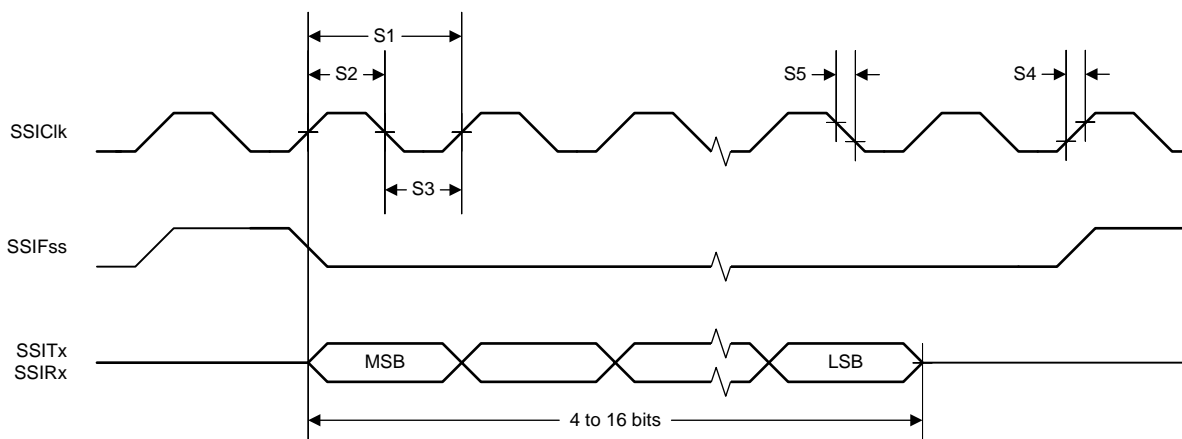
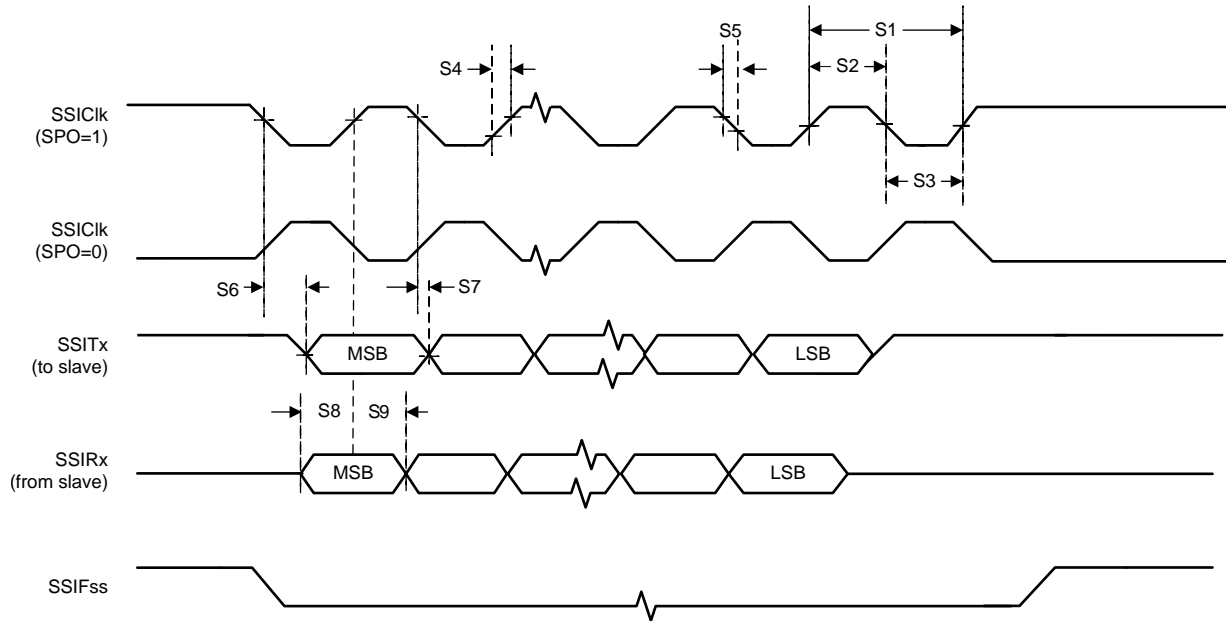
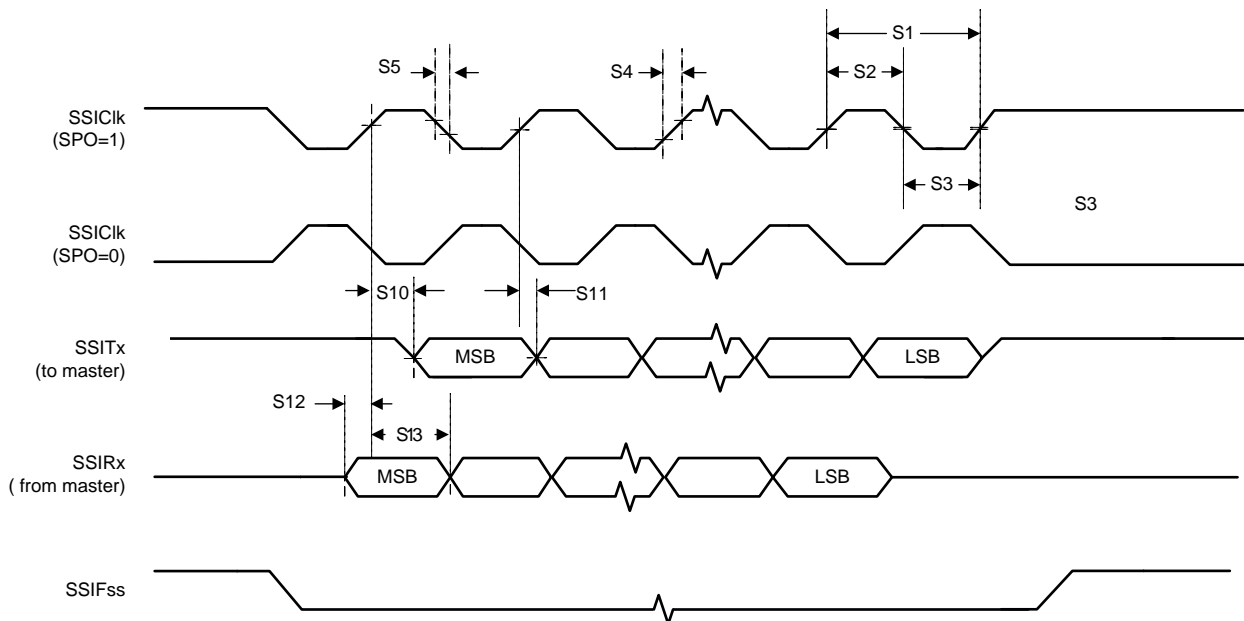

Figure 5-28. SSI Timing for TI Frame Format (FRF = 01), Single Transfer Timing Measurement
Figure 5-29. Master Mode SSI Timing for SPI Frame Format (FRF = 00), With SPH = 1
Figure 5-30. Slave Mode SSI Timing for SPI Frame Format (FRF = 00), With SPH = 1
over operating free-air temperature (unless otherwise noted) (see Figure 5-28, Figure 5-29, and Figure 5-30)
(1) Parameters S15 to S23 correspond to parameters S1 to S9 in Figure 5-28 and Figure 5-29.
(2) In master mode, the system clock must be at least twice as fast as the SSIClk.
(3) The delays shown are using 12-mA drive strength.